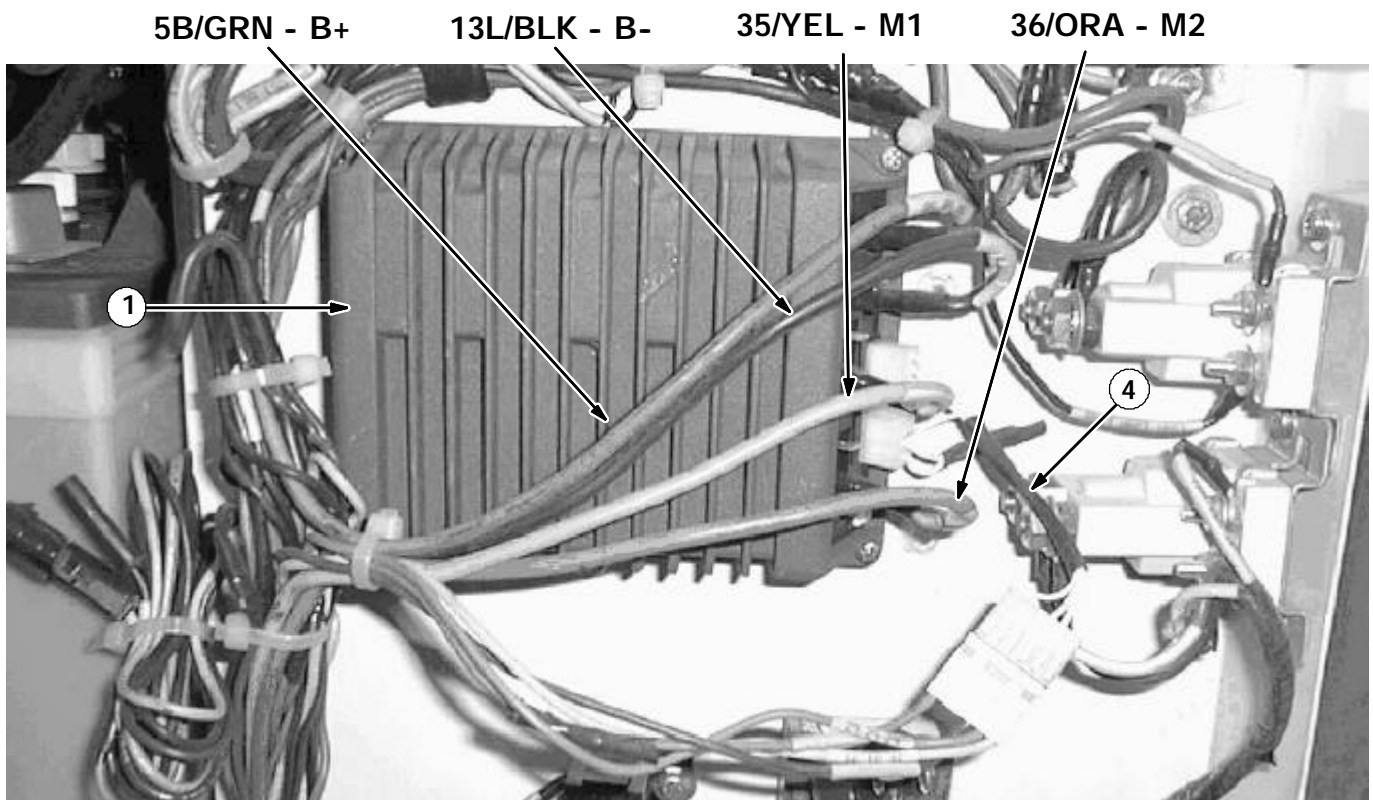

FIG. 2 - CONTROLLER WIRING INSTALLATION
10. Mount wire connections to new controller box (1) in same orientation as previous controller box. (Refer to FIG. 2)